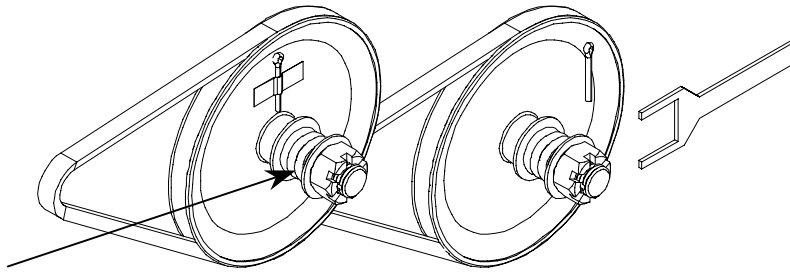

Figure 19 Clutch adjustment
1. Remove cotter pin. When installing for the first time the cotter pin is found taped on the pulley (Figure 19).